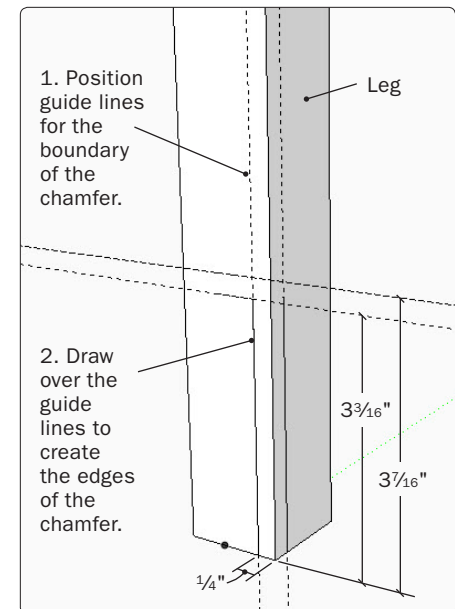

Figure 9. Zoom in close to the bottom of the leg and begin drawing the chamfer.
Step 7 Make a temporary copy of a leg component and move it slightly away from the model. Use the Tape Measure Tool to place guide lines over adjacent faces of the copy, as shown in Figure 9. These will locate the chamfer boundaries. Select the leg component, right-click, and choose Edit Component from the pop-up menu. Use the Line Tool to draw lines over the guide lines to define the chamfer boundary.